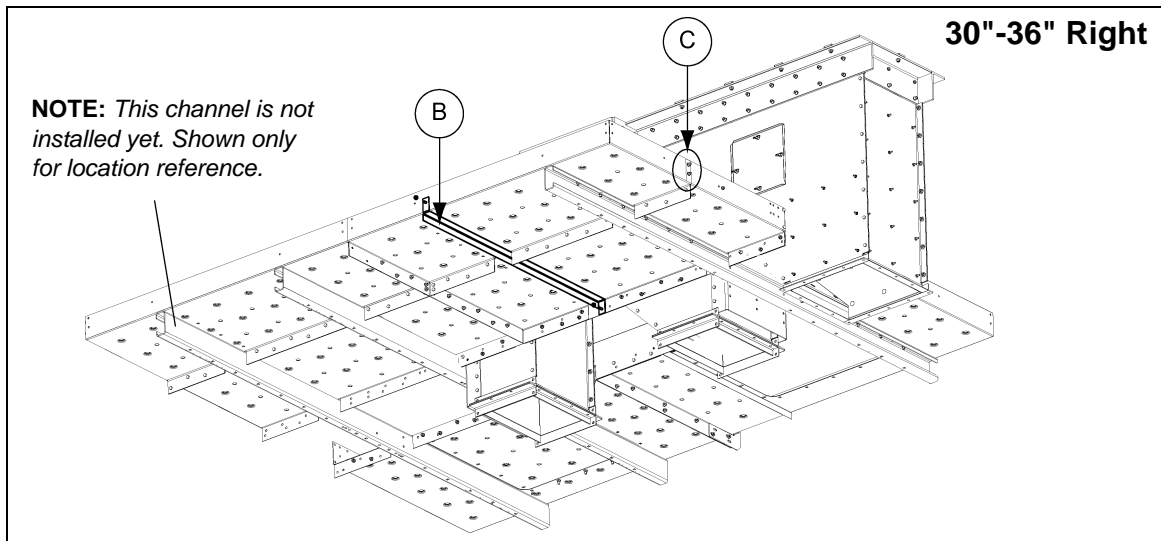

Figure 8N
5. Orient Deck F flange outside of Deck C flange. *(See Figure 8N on Page 63.)*
7. Install the head platform hatch deck support (HP1648HDS) (B) under Deck C and Deck F using 3/8" x 3/4" bolt (S-7105) and nut. (See Figure 8N.) **NOTE:** You may need to remove a bolt from the toe board if one was installed in this location.